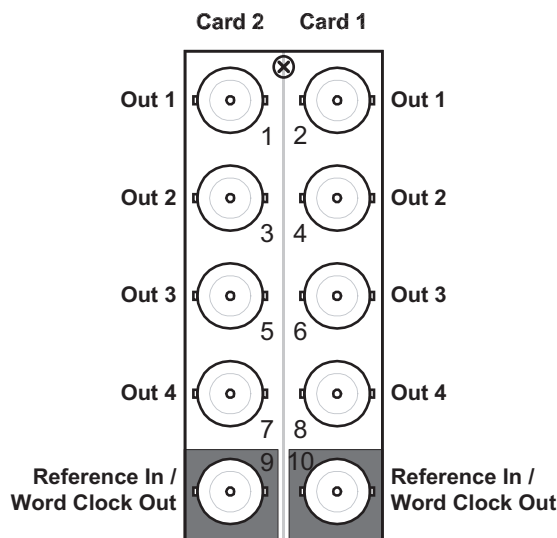

Figure 2.5 Cable Connections for the 8320AR-031 Rear Module
- **8320AR-031** Split Rear Module — Each rear module occupies two slots and accommodates two cards. This rear module provides four video outputs. Depending on your configuration, there can be a reference input or a second Word Clock output on the bottom BNC. (**Figure 2.5**)